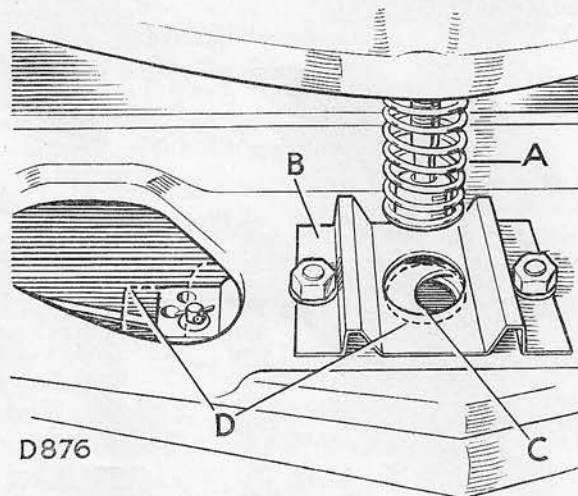

Fig. 3. Location of bonnet lock and striker plate.
5. Lower the bonnet and ensure that the spring retainer on the bonnet lock locates at the centre of the striker plate. See Fig. 3.
6. Check the slider catch, underneath the striker plate, as follows: see Fig. 3.